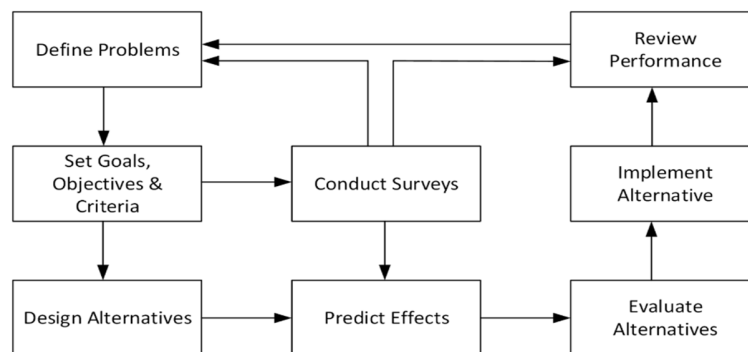

Figure 6.1 – A Systems Approach to Urban Distribution [7]
The systems approach is the foundation of systems engineering. It is fundamental to systems, systems thinking, systems methodology, systems design, and systems engineering. It is a set of top-level rules from which systems engineering methodologies can be derived. The systems approach is a problem solving paradigm. That is to say, the systems approach considers the attributes of an entire system to achieve the objective of a system, which is to solve a problem. The systems approach allows the designer to manage, encapsulate, and anticipate complex behaviours [6]. A Systems Approach to Urban Distribution is presented on the Fig. 6.1.
1. Put the activities of urban distribution in the right order, Fig. 6.1.